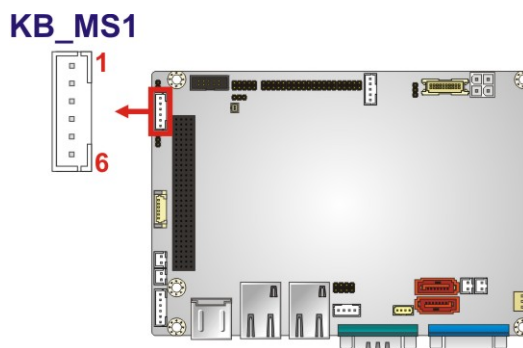

Figure 3-8: Keyboard/Mouse Connector Location
- CN Location:** See **Figure 3-8**